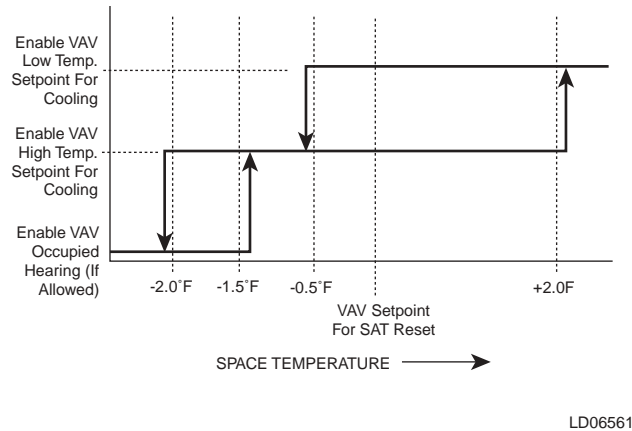

FIG. 30 – OCCUPIED HEATING AND COOLING SETPOINT SELECTION ALGORITHM
- Figure 30 illustrates the algorithm for occupied heating required.
- The SAT setpoint for cooling is the "VAV Cool Low Temp" or "VAV Cool High Temp" through comparison of the space temperature and the "VAV SP for SAT Reset" as shown in Figure 30.
In the occupied mode, the Space Sensor will compare the space temperature to the programmed "VAV SP for SAT Reset" and request heating, or cooling, using the following control algorithm (Figure 30):